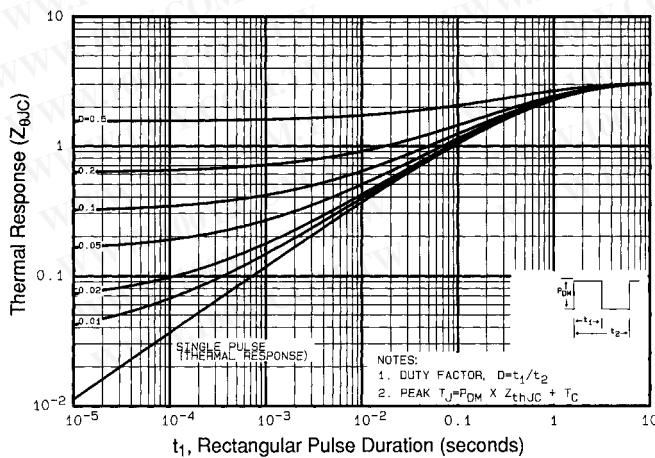

Fig 11. Maximum Effective Transient Thermal Impedance, Junction-to-Case
① Repetitive rating; pulse width limited by max. junction temperature (See Figure 11)
③ $I_{\text{SD}} \leq 7.9\text{A}$, $dI/dt \leq 150\text{A}/\mu\text{s}$, $V_{\text{DD}} \leq V_{(\text{BR})\text{DSS}}$, $T_J \leq 150^\circ\text{C}$ ⑤ $t = 60\text{s}$, $f = 60\text{Hz}$ ② $V_{\text{DD}}=50\text{V}$, starting $T_J=25^\circ\text{C}$, $L=15\text{mH}$